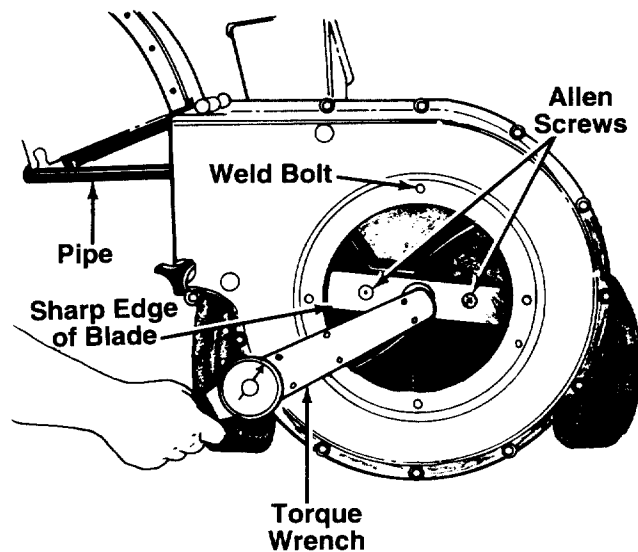

FIGURE 15.
- Lower the hopper assembly. Block up the housing. See figure 15.